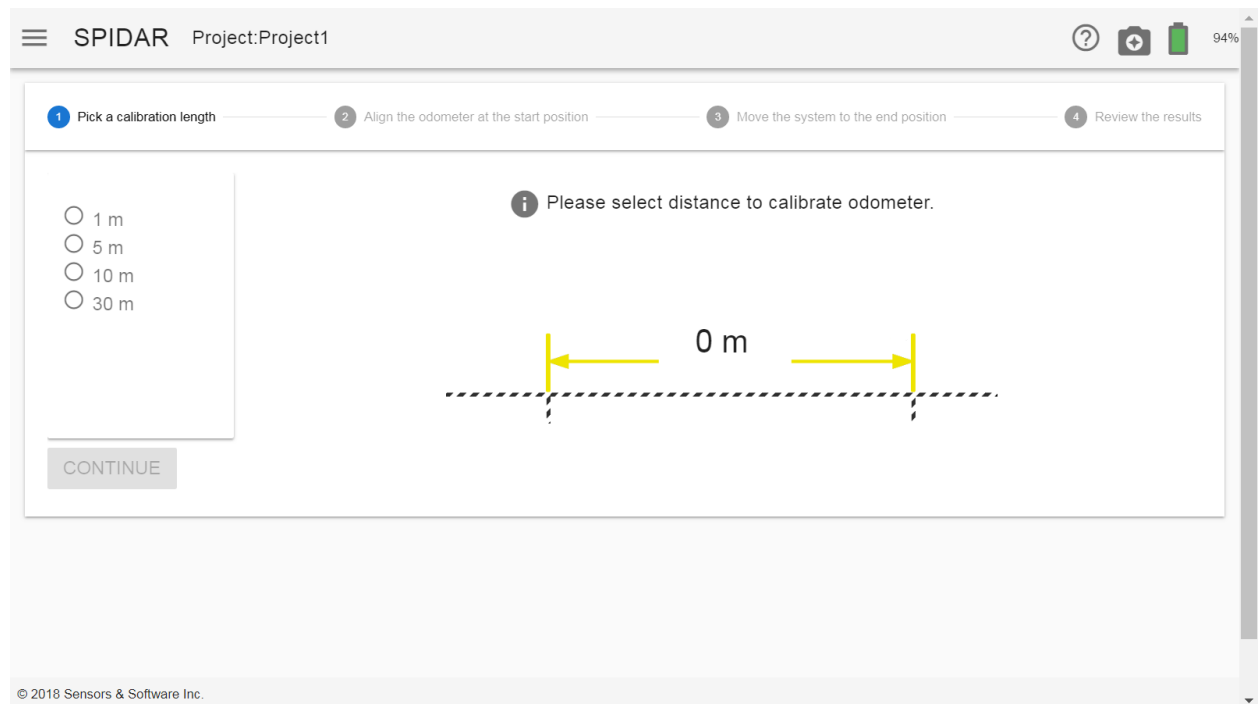
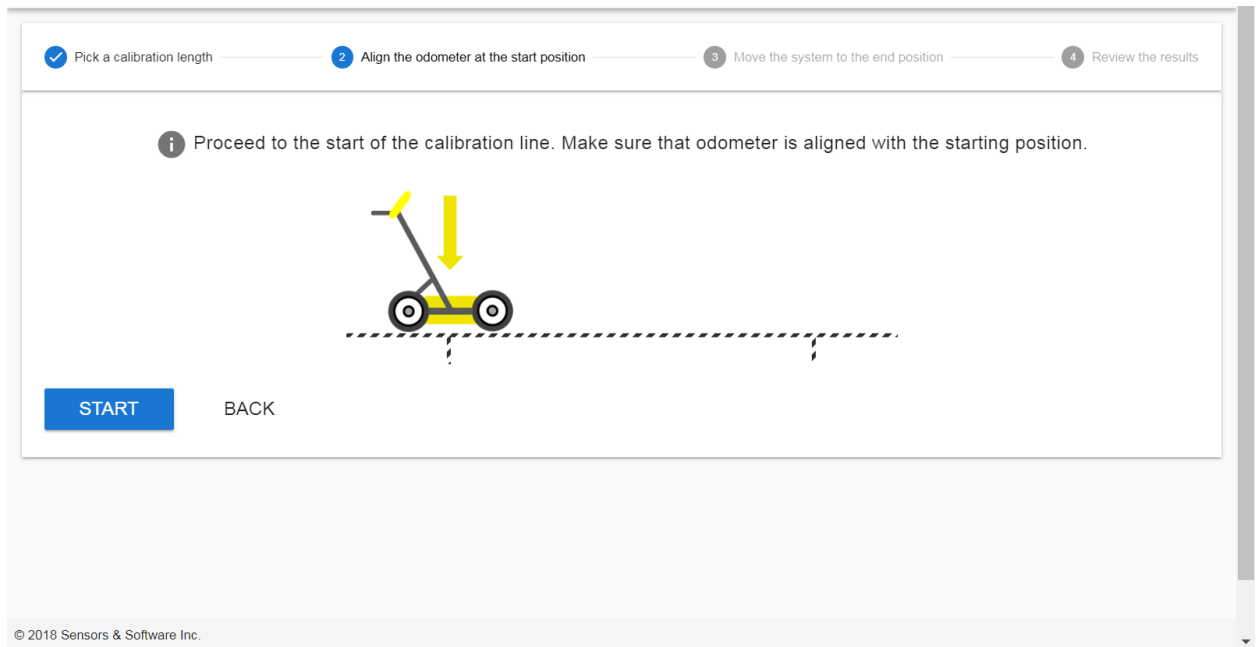

Figure 4-24: Select distance to calibrate odometer
Figure 4-25: Begin odometer calibration by pushing system the selected distance
- Calibrate Odometer – pressing this button, will navigate the user to a page where the odometer is calibrated by moving the system a known distance (Figure 4-24). Press **Start** and then move the system that exact distance, using a measuring tape or other known distance indicator (Figure 4-25). Upon completion, either accept the new value or revert back to the old one.